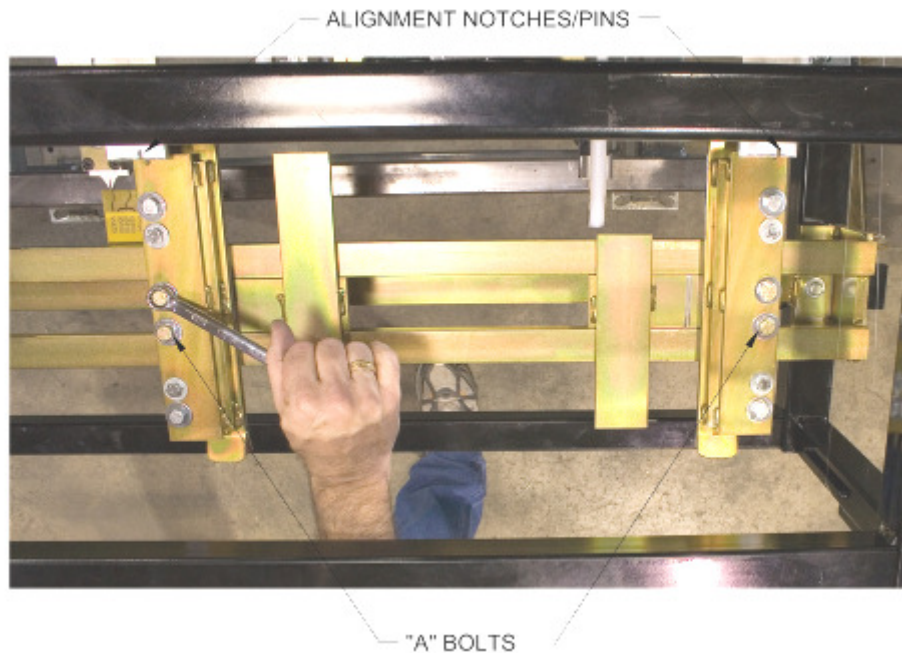

Figure 50: Entry Guide Alignment Notches and Pins
9. Loosen the two "A" Bolts on the Right Entry Guide (Figure 50). Slide the entry guide to the left or right until the alignment pin, located on the end of the top shoe of the entry guide, is directly under one of the notches on the Tooling Rail Marker Plate. Make sure to choose the notch that corresponds to the desired leg configuration as noted on the decal on the top of the marker plate.
11. Loosen the two "A" bolts on the Left Entry Guide (Figure 50).